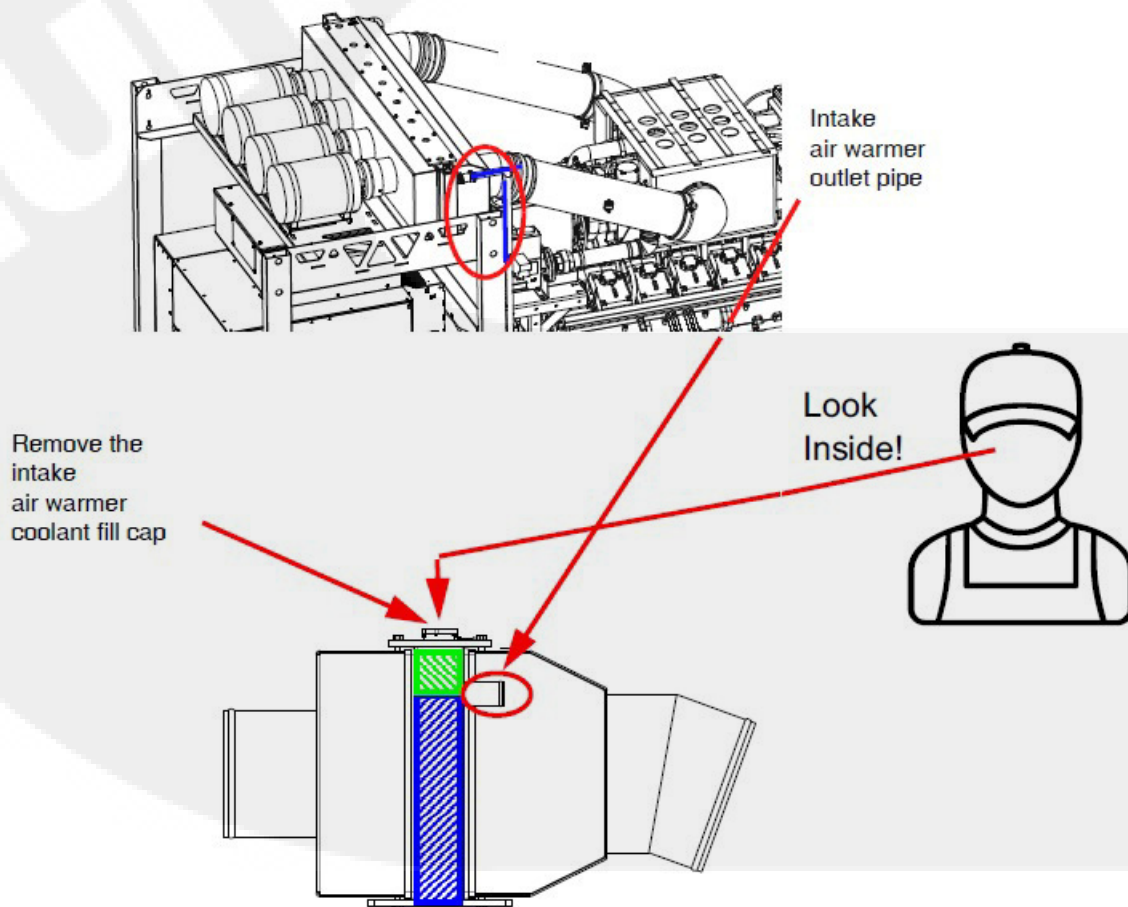

Figure 7-20 Cross-section diagram of the intake air warmer coolant fill port (GenSet right side)
4. See 9.6 C1000N6B/C1300N6 coolant specification. As shown in Figure 7-20, slowly add engine coolant and watch for when the coolant level begins to cover the intake air warmer outlet pipe. It is acceptable to leave some air space in the intake air warmer.